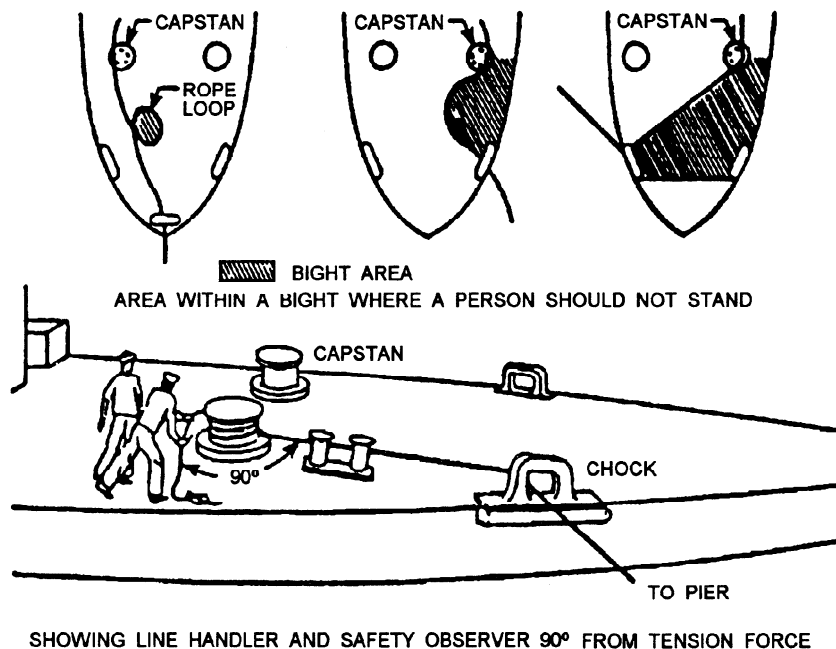

Figure 4-7.—Safe working area.
- Since a snap-back action inevitably occurs when a line parts under tension, never allow personnel to stand in the direct-line-of-pull of the line when it is being pulled or when it is under tension. A synthetic line parting under tension will snap back at near the speed of sound, and there will be no time to clear the area. Where possible, position line handlers a minimum of 90° from the direction of the tension force (fig. 4-7).
- Never stand in the bight of a line or in the direct-line-of-pull when the line is being pulled or under tension. See figure 4-7 for examples of danger areas.